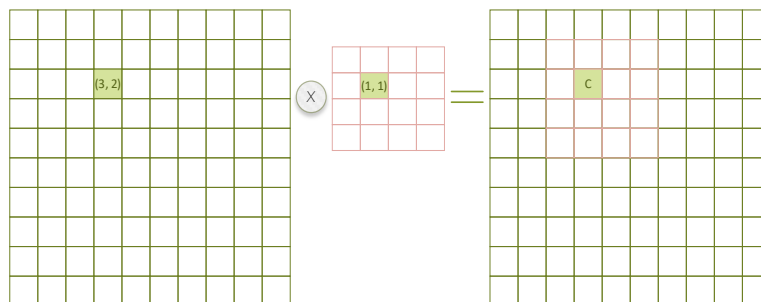

Figure 9-1 2-D convolution filter example
- Figure 9-1 illustrates a 2-D convolution filter having size of 10x10 and its center point is located at coordinates (`cx = 1`, `cy = 1`).